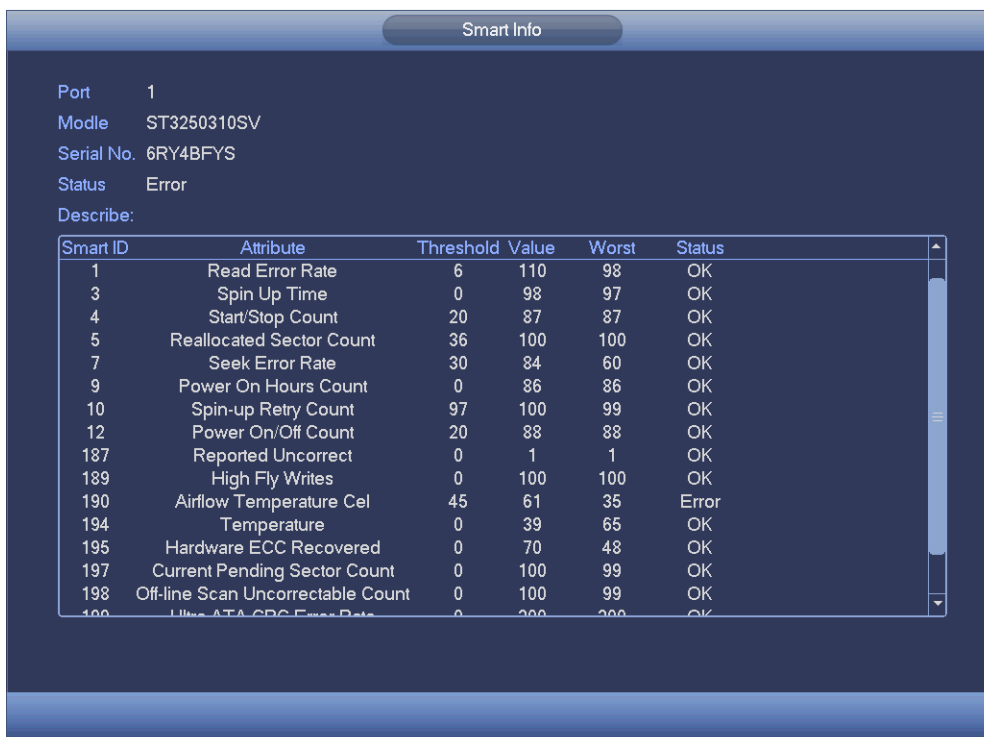

Figure 4-39
- SMART: Display HDD information. See Figure 4-39.
Double click one HDD information; you can see the HDD SMART information. See Figure 4-39.